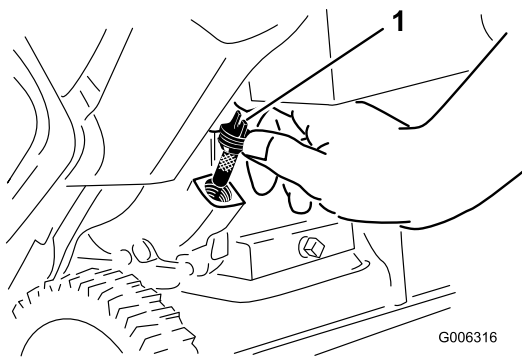

Figure 30
6. Clean around the oil fill cap (Figure 30).
7. Unscrew the oil fill cap and remove it (Figure 30).